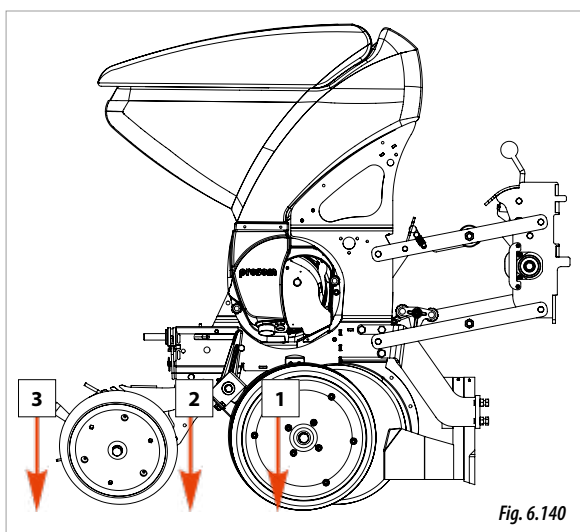

Fig. 6.140
MICRO GRANULAR FERTILIZER is placed along with the seeds (1, Fig. 6.140).
- SEMI-SUPERFICIAL (2, Fig. 6.140).
- SUPERFICIAL (3, Fig. 6.140).